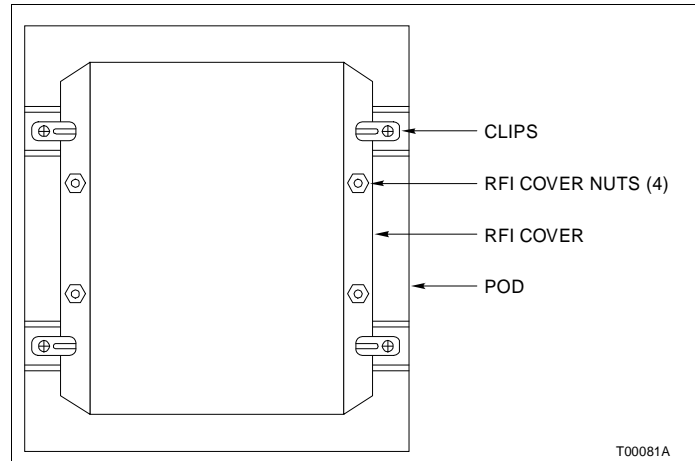

Figure PR70-2. ADP
6. Rotate the four clips that hold the ADP into the pod. It might be necessary to loosen the clip mounting screws (Fig. PR70-2).